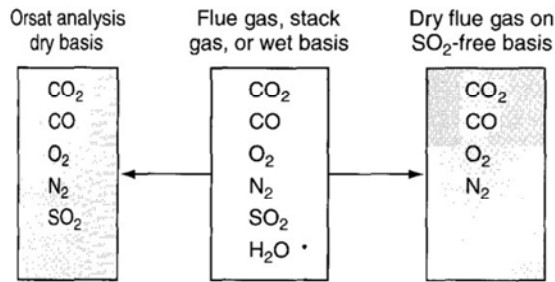

Figure 10.4 Comparison of a gas analysis on different bases.
2. **Orsat analysis or dry basis**: All the gases resulting from combustion process **not including** the **water** vapor. **Orsat analysis** refers to a type of gas analysis apparatus in which the volumes of the respective gases are measured over and in equilibrium with water; hence each component is saturated with water vapor. The net result of the analysis is to **eliminate water** as a component being measured (show Figure 10.4).
6. **Excess air (or excess oxygen)**: In line with the definition of excess reactant given in Chapter 9, excess air (or oxygen) would be the amount of air (or oxygen) **in excess of that required for complete combustion** as defined in (5).